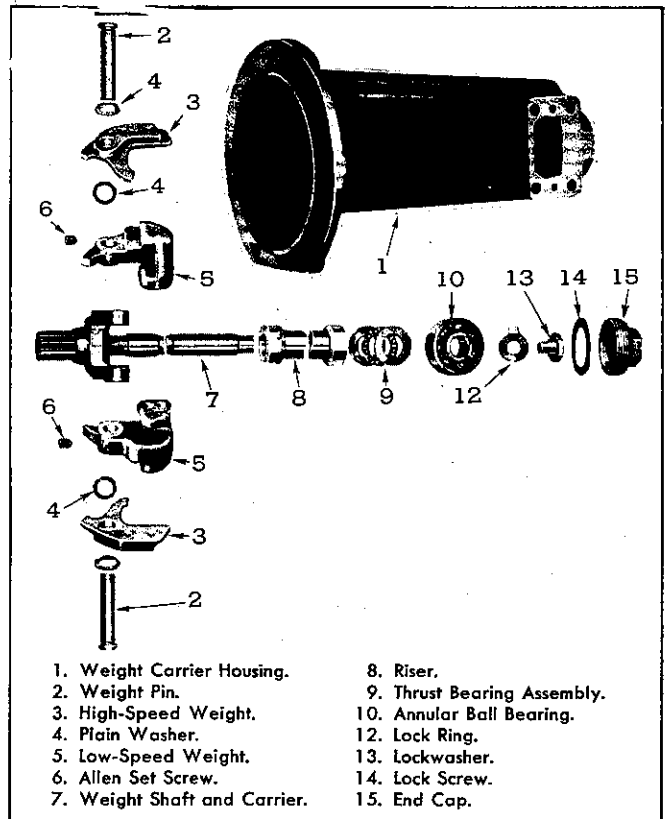

Fig. 16—Governor Weight and Housing Details and Relative Location of Parts (Early Models).
1. Using wood block, tap ball bearing (10) into outer end of weight housing (1) and install lock ring (12) into groove to lock bearing in place. (See Fig. 16.) If the opening in the housing to the bearing seat is internally threaded, no lock ring will be used to hold the bearing. The threaded plug and a gasket screwed up tight against the bearing outer race serve to hold the bearing in position.
2. Heeding marks previously placed on governor weights and carrier, also noting position of washers between weights, attach weights (3 and 5) to carriers (7) and lock each pin (2) with the Allen set screw (6). Stake Allen screws at two places after replacing.
3. Support serrated end of shaft (7) vertically in vise between copper jaws and slip riser (8), then thrust bearing (9) onto upper end of shaft. Drop carrier housing (1) over shaft, then using block of wood on inner race of ball bearing, drive shaft through bearing tight against shoulder on shaft. Install lock-